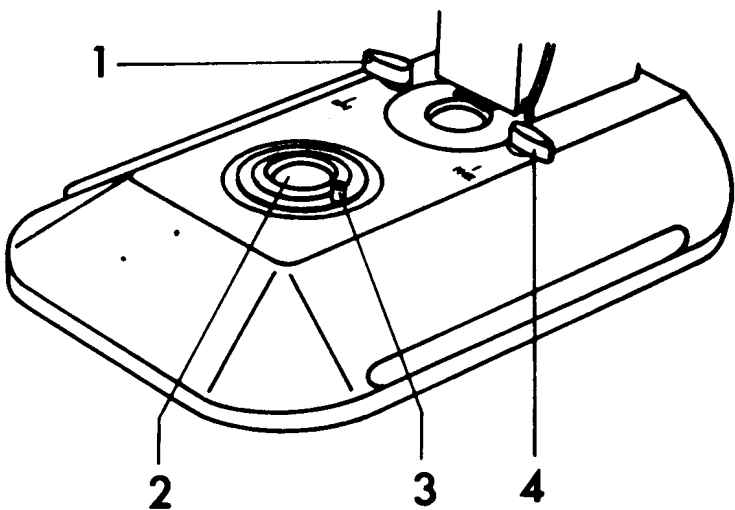

Fig. 12
Set the "ZETOPAN" for transmitted light illumination; move the levers (1) and (4) (Fig. 12) outwards to the left and right respectively.
Set the swing-in illumination lens to position "EX" with the pin (3) (Fig. 12).
Place a sheet of paper on the light exit aperture (2/ Fig. 12).
Next the lamp condenser is rotated anti-clockwise up to the stop and the pivot lens set to "EX" with the control (3/ Fig. 12). The specimen is moved until an empty area is in the field. The condenser is then lowered with its control until the lamp filament appears sharply focused in the field. The lamp holder can now be moved sideways and rotated so that the lamp filament coincides exactly with its mirror image. Any dark gaps between the windings are filled with bright parts of the mirror image.
Move the swing-in illumination lens to position "EX" with pin (3) (Fig. 12). Adjust the lamp collector with the knurled ring (2) and slightly close the lamp field diaphragm with the lever (1) to produce an image of the glowing filament on the paper.